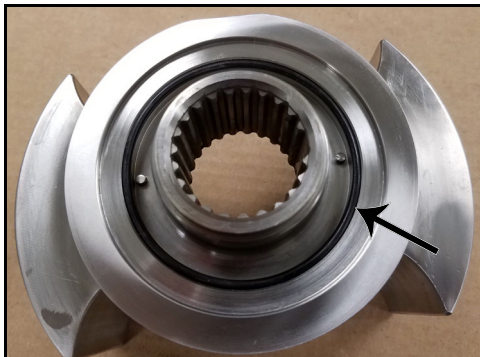

Figure 173 - Sleeve front O-ring
2. Figure 173 shows the sleeve front O-ring installed.